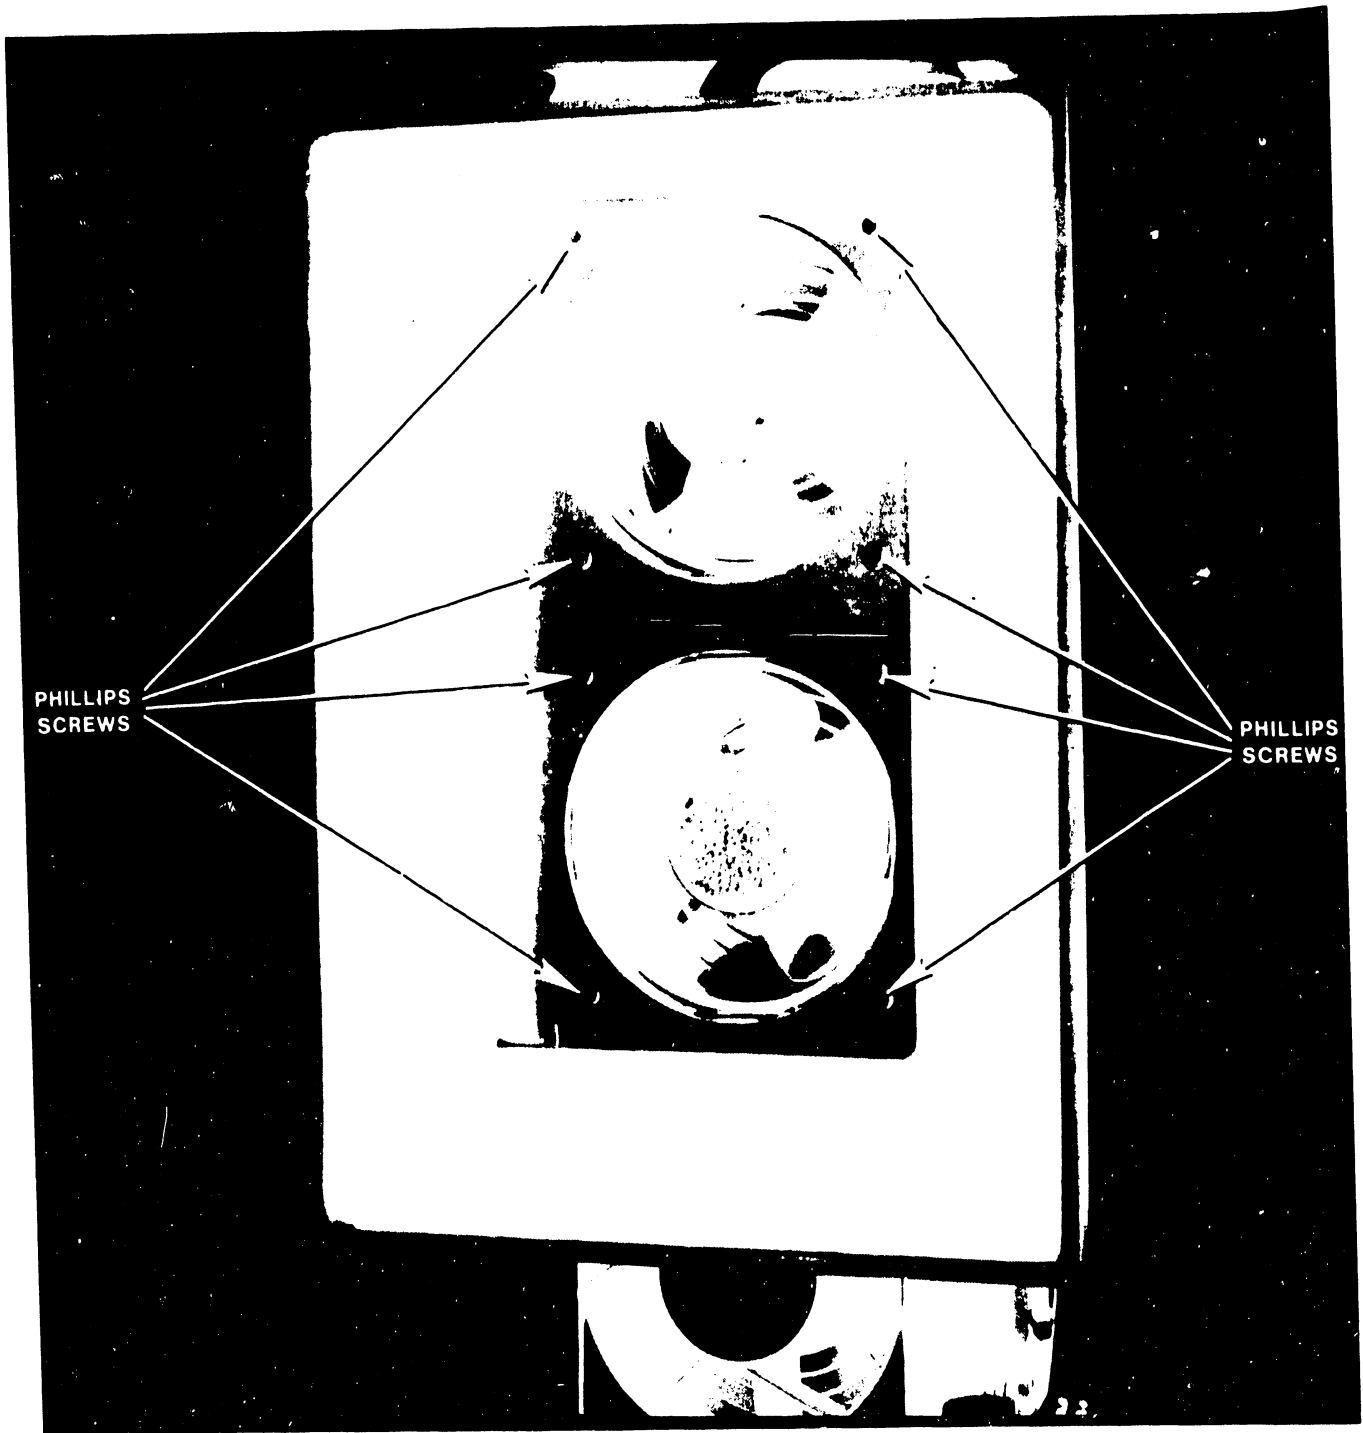

Figure 5-32. Fan Baffle
10. To remove either of the top two fans, remove the 8 Phillips screws holding the fan baffle (figure 5-32) to the fans. It is not necessary to remove the baffle to remove the bottom fan.